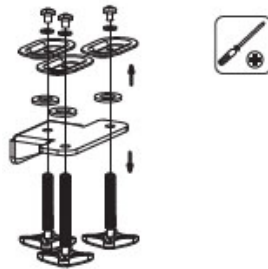

Figure 4
2. Remove the support plate from one clamp screw using a Phillips screwdriver, then remove the clamp screw from the lower desk clamp, see Figure 4. **NOTE:** Only one clamp screw is required for the Grommet Hole installation.